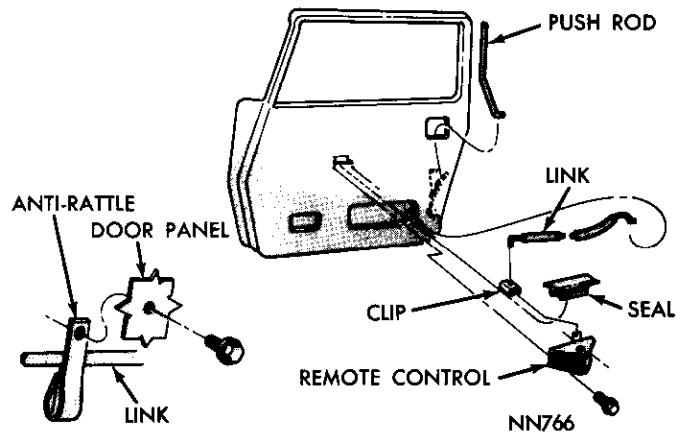

Fig. 26—Front Door Remote Control
- (1) Raise door glass and remove remote control base to door panel screws (Figs. 26 and 27).